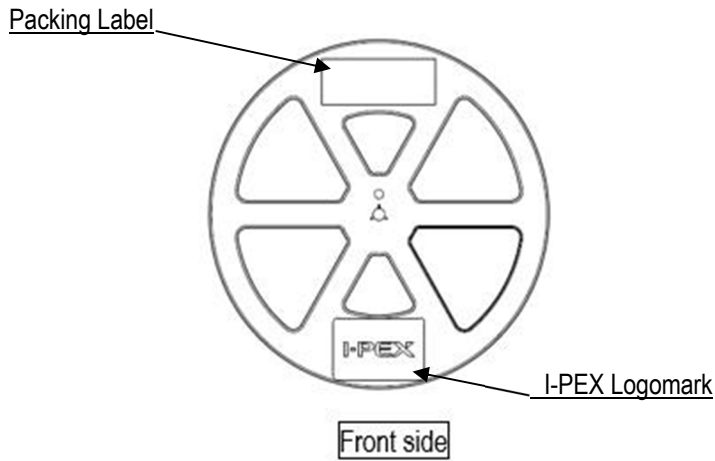

Fig. 2
- (2) Put the I-PEX logomark and packing label on the designated place of reel as shown in Fig. 2.